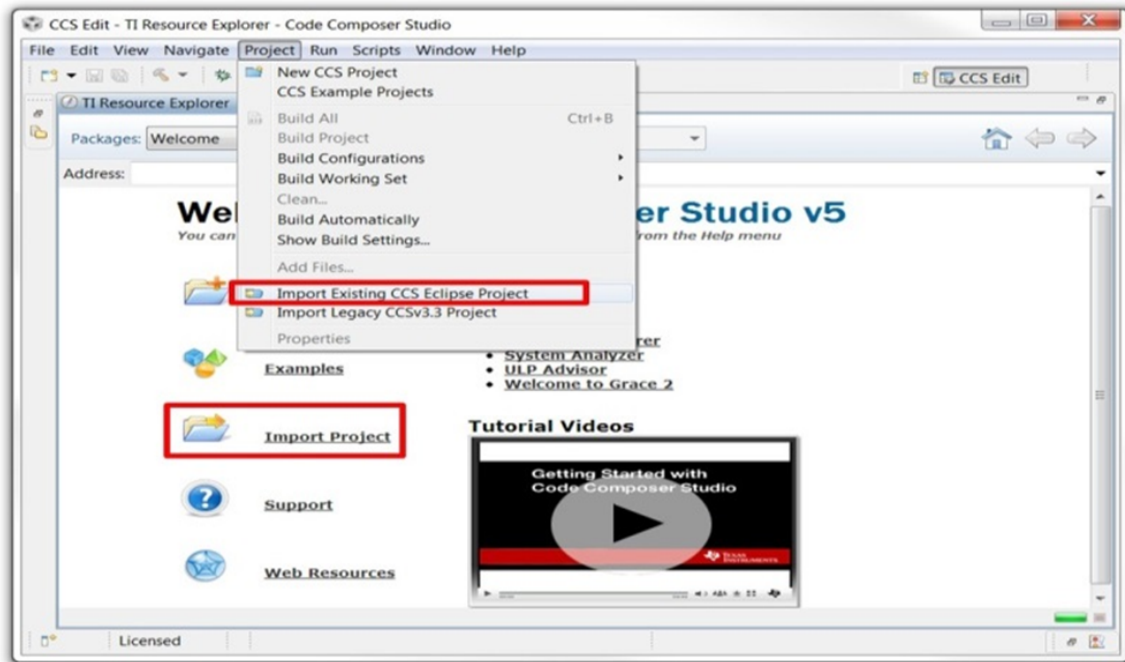

Figure 20. Importing CSS Project
- Step 4. Import a project either from the welcome menu by selecting *Import Project* or go to the *Project* menu and select *Import Existing CCS Eclipse Project* (see Figure 20).